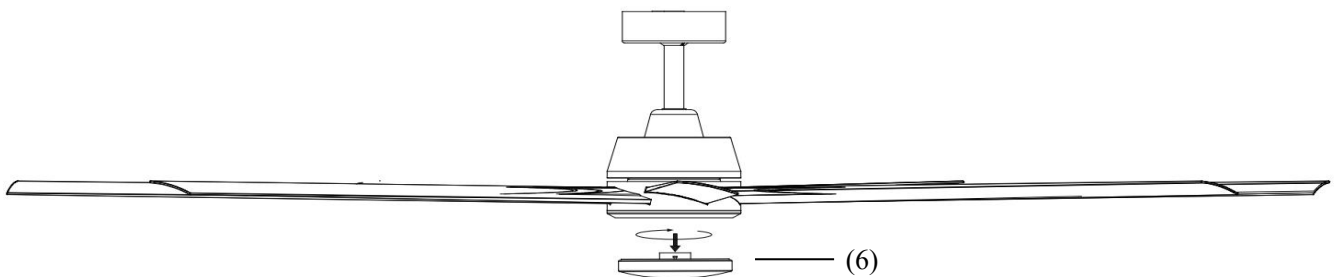

Fig. 8
- Remove the lamp (6) from the GX53 lamp holder. (Fig.8)